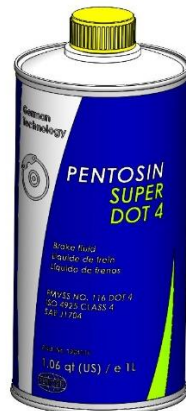

Figure 7 – Pentosin Super DOT 4
11. If the master cylinder has been removed or replaced, make sure it is properly bench bled and then installed on the vehicle. Then the remaining brake system can be bled to remove all of the air from the system. **REMEMBER:** Master Power Brakes requires the use of either DOT 3 or DOT 4 brake fluid. We Recommend the use of Pentosin Super Dot 4 fluid as seen below in Figure 7 (**Available at Master Power Brakes P/N: ACJ1703**).